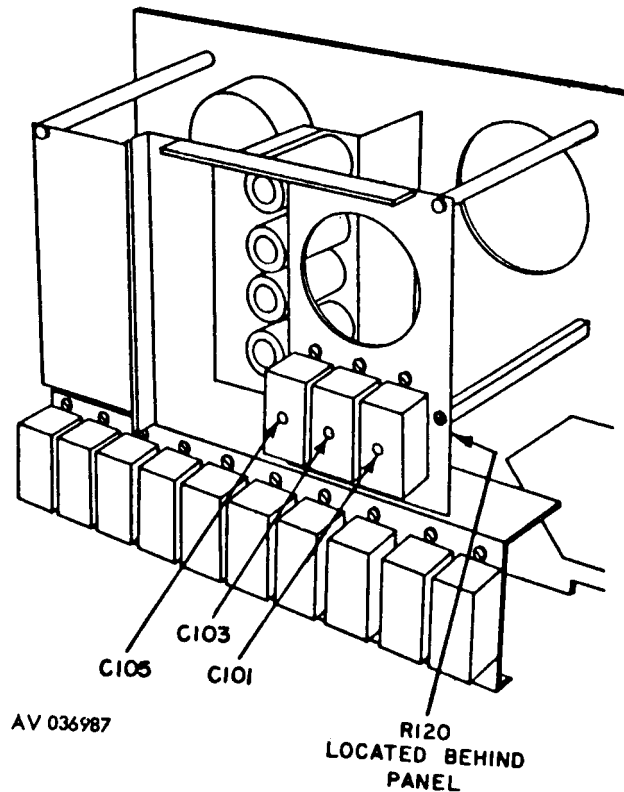

Figure 3. Consolidated Airborne Systems, Models TF20-1 and TF579 - adjustment locations.
- e. Set switches as listed in (1) through (3) below:
- (1) **FUNCTION SELECTOR** to **CAP IND-ZERO CAL.**
- (2) **CAP RES CHECK** to **CAP.**
- (3) **CAPACITANCE INDICATOR-RANGE SELECTOR** to **X1.**
- g. Set **CAPACITANCE INDICATOR-RANGE SELECTOR** switch back and forth through its four ranges. If meter does not indicate zero, adjust R120 (fig. 3) for minimum shift of pointer.
|                         | Range           | Indications (pF) |        | Adjustments (fig. 3) |
**b. Adjustments.** Adjust C101 (fig. 3) for a capacitance indication of 100 pF.